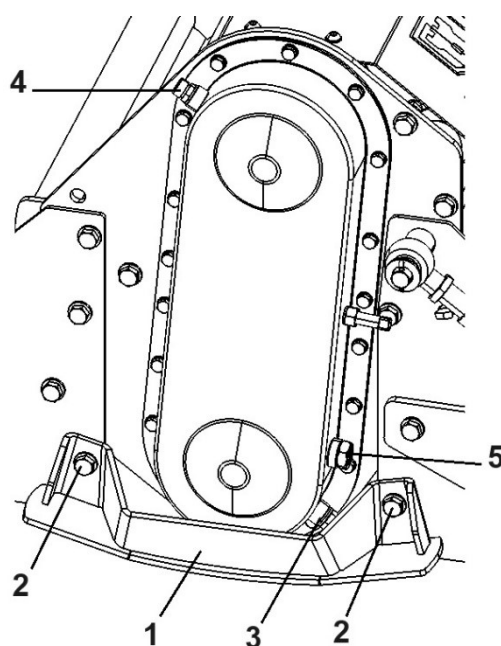

Figure 10. Oil change in the chain transmission: 1 – side skid, 2 – bolts with nuts, 3 - drain plug, 4 - filler plug, 5 - level plug with sight glass
The oil filler point for the chain transmission is marked with an appropriate pictogram and is indicated in Figure 10, item 4. The periodic oil change in the chain transmission must be performed in accordance with Table 5.
When changing the oil in the chain transmission, the following activities must be performed (Fig. 10):